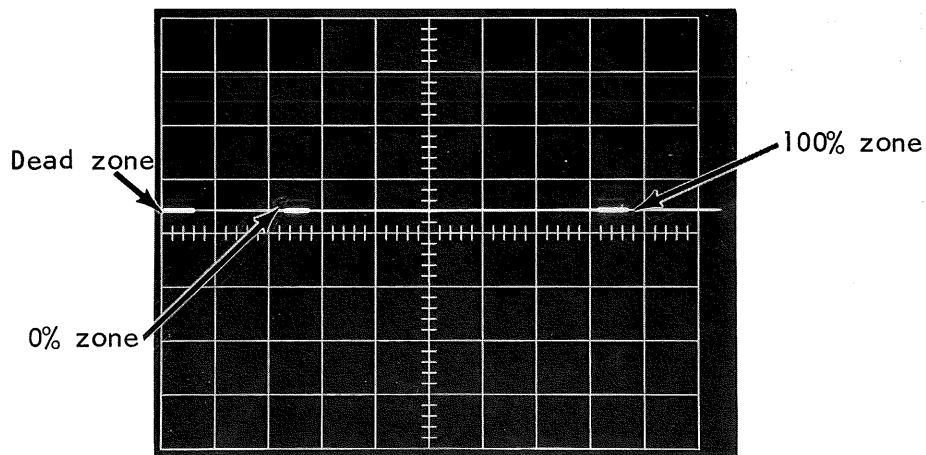

Figure 2-12
3. Set the A 0% and 100% ZONE POSITION controls so both the 0% and 100% zones are out of the dead zone and visible on the CRT. See Figure 2-12.